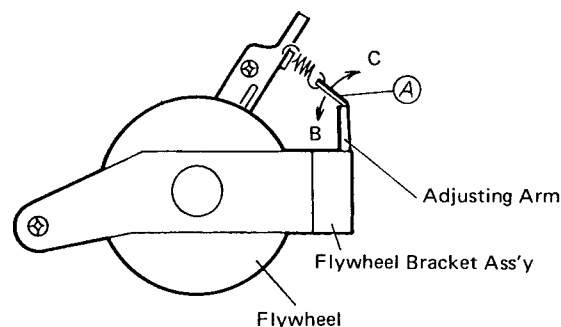

Fig. 22
1. Setting the mechanism vertically in the playback mode, the auto stop mechanism should function at the pressure of 45 to 65g when the tip of stop detect contact has been pulled upwards by a tension gauge. (Refer to Fig. 22)
2. If the pressure is less than 45g, bend the part (A) of adjusting arm to the B direction. If it is more than 70g, bend the part (A) to the C direction.